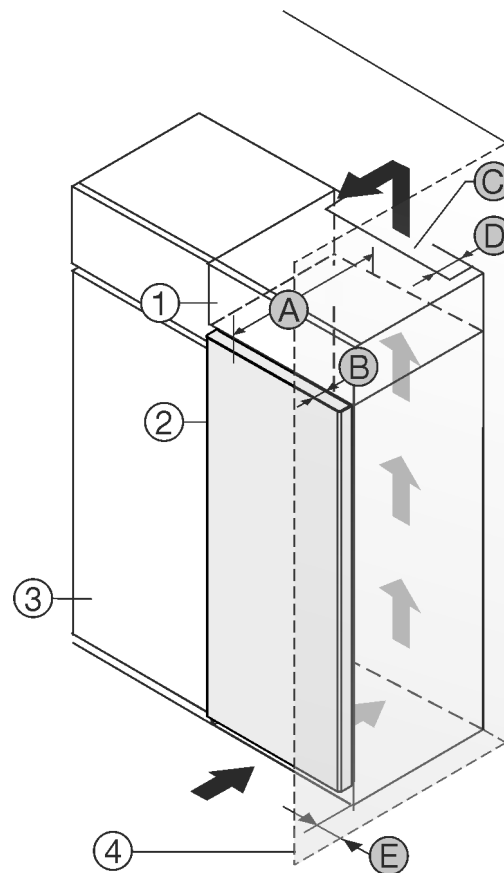

Fig. 1
There must be a ventilation shaft at the depth Fig. 1 (D) of the back of the top cupboard over the entire width of the top cupboard.*
The ventilation cross-section Fig. 1 (C) must be maintained under the ceiling.*
If the appliance is set up with the hinges next to a wall Fig. 1 (4), the distance between the appliance and the wall must be at least 13 mm.*
If the appliance is set up with the hinges next to a wall Fig. 1 (4), the distance between the appliance and the wall must be at least 20 mm.*
In order to be able to fully open the door, the appliance must protrude by the depth of the door Fig. 1 (B) from the front of the kitchen cabinet. The appliance may protrude further depending on the depth of the kitchen cabinets Fig. 1 (3) and whether wall spacers are used.*